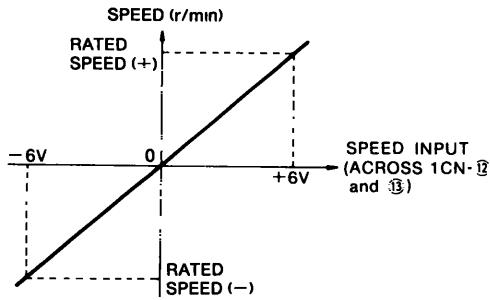

Fig 10.1 Speed Reference Input—
- (1) Speed reference input—servomotor speed ratio (no load) (Fig. 10.1)